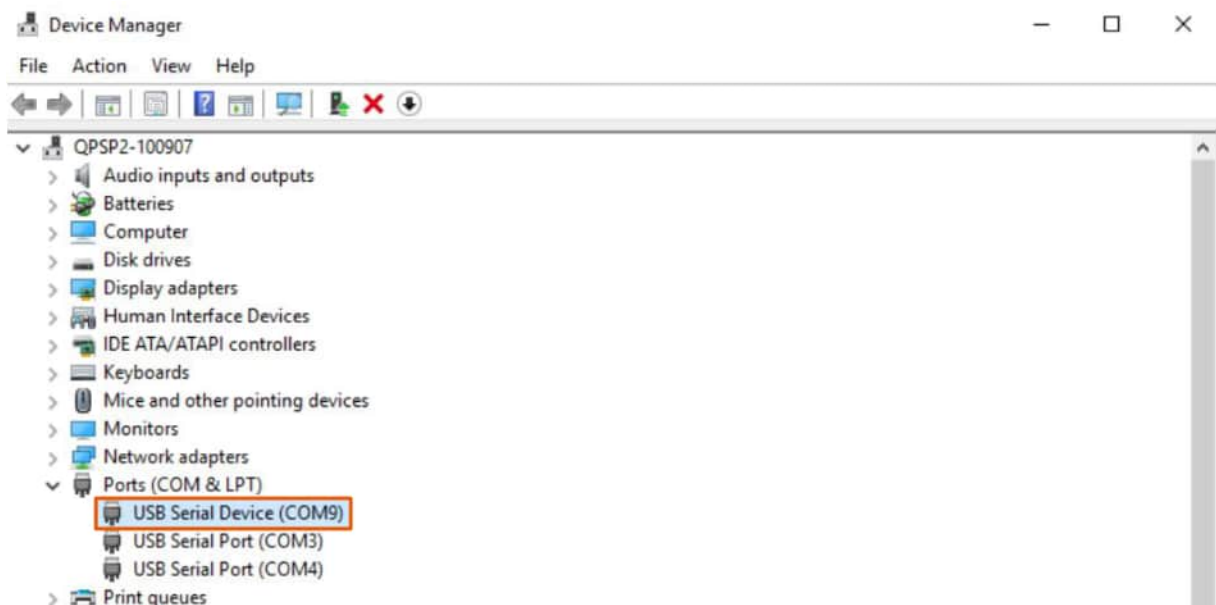

Figure 4-10: Shoe scanner in the device manager
- Check if the shoe scanner is listed in the Windows device manager. To access the device manager, log into Windows with the service credentials. The shoe scanner is identified as "USB Serial Device (COMx)". The COM port number can be different than shown in Figure 4-10.